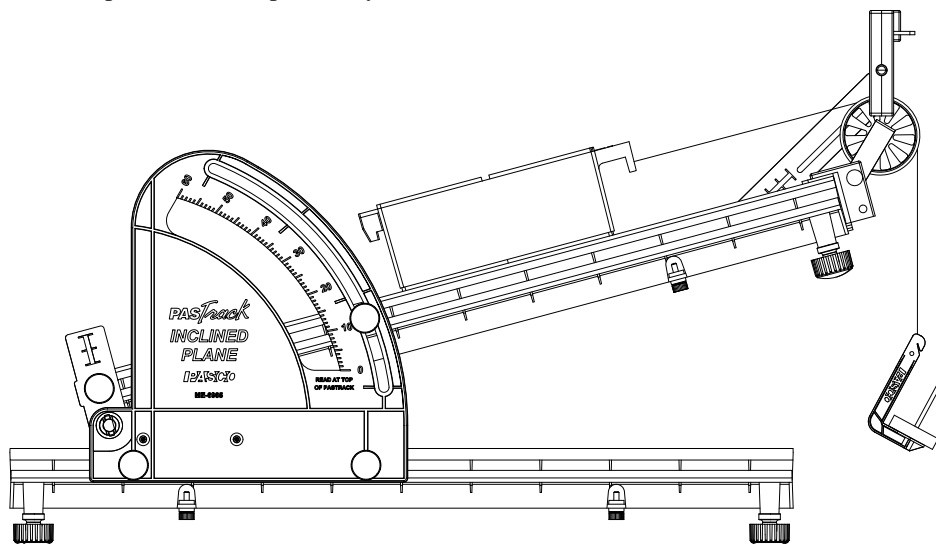

Figure 5.4
1. Set up the PASTrack and Inclined Plane Accessory as shown in Figure 5.4 with a Super Pulley with Clamp, Photogate Head, and Photogate Bracket. Elevate the PASTrack to an angle less than 30 degrees. Adjust the Photogate Head and Photogate Bracket so that the infrared beam of the photogate will be interrupted by the spokes of the Super Pulley as it turns.